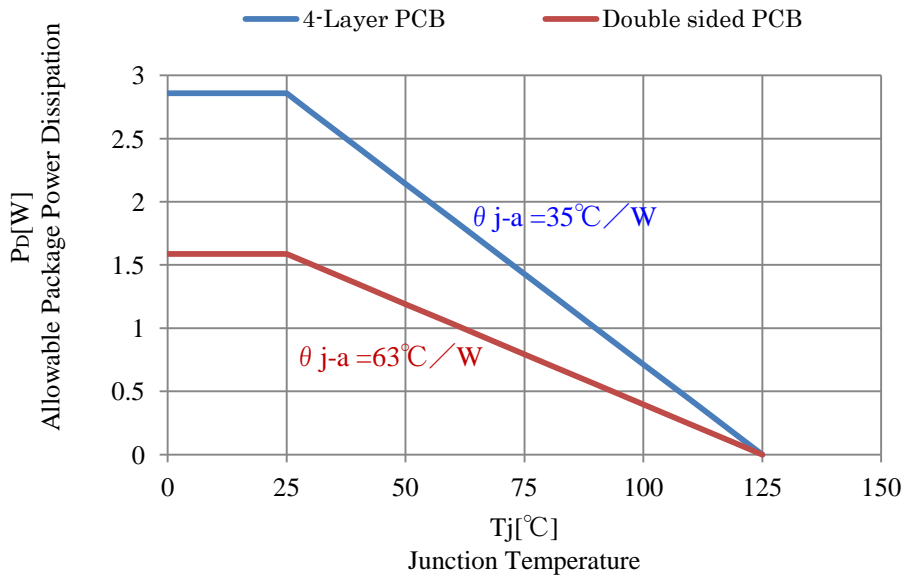

fig.1 LC5830K Thermal Derating Curve
(3) You must use it within Thermal Derating Curve of the fig1.
(4) You must use it within Thermal Derating Curve of the fig1.
Note2: As for the "Thermal-Derating-Curve" of the fig1, it is calculated in consideration of the printed-circuit-board temperature limit = 130°C to use most in less Junction-temperature Tj= 125°C.